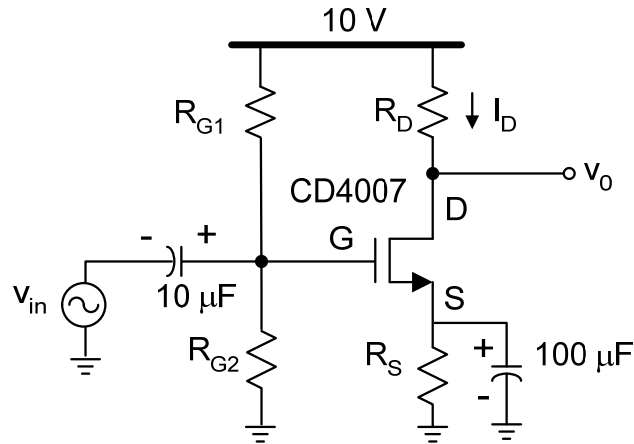

Fig. 3. Common-source configuration
5. Find the value of the resistors for the circuit shown in Fig. 3 (use the CD4007) such that the magnitude of the small signal voltage gain is 20 dB, and the DC drain current is 1 mA. Make sure the transistor operates in the saturation region. Select the resistors lumped to the gate such that  $R_{B1}||R_{B2} > 100\text{ k}\Omega$ . Check first the operating point of your design, and verify that the voltage gain is approximately given by  $-g_m R_D$ . Compute the values for the input impedance, and output impedance.
6. Construct the circuit in Fig. 3 in Pspice and compare the simulated results and hand calculations. Explain any differences.
7. Plot the frequency response of the circuit shown in Fig. 3, and find the low frequency and high frequency poles.
5. Construct the circuit shown in Fig. 3; use the resistor values computed in the pre-lab and be sure you verify the component values needed using Spice simulations.